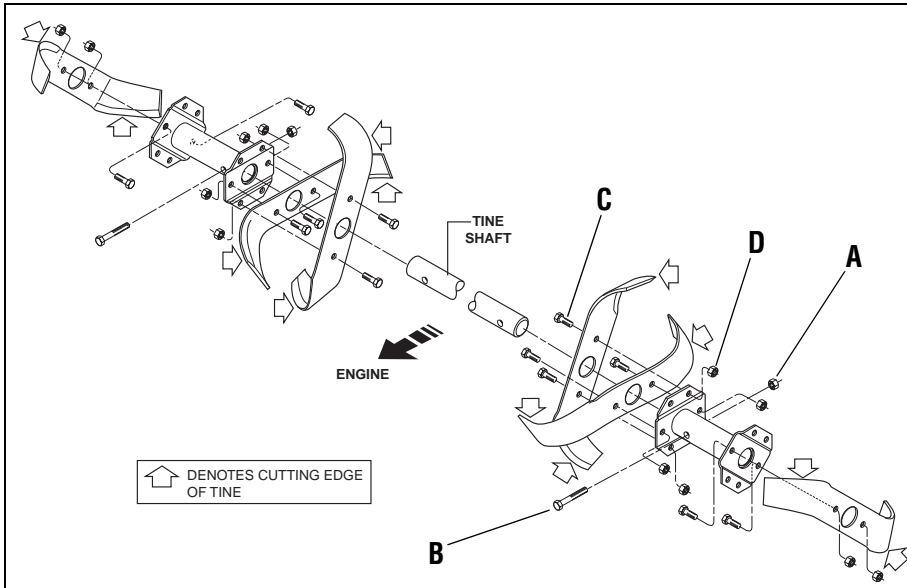

Figure 5-7: Complete tine assemblies— holders, tines and hardware.
1. Use a 9/16" socket, 6" extension, a ratchet, and a 9/16" box wrench to loosen the nut (A, Figure 5-7) and bolt (B) that secure the tine holder to the tine shaft.
**WARNING:** This is a CRT (counter-rotating tine) tiller and its tines must be mounted in the direction shown in Figure 5-7. Failure to comply could result in personal injury or property damage.